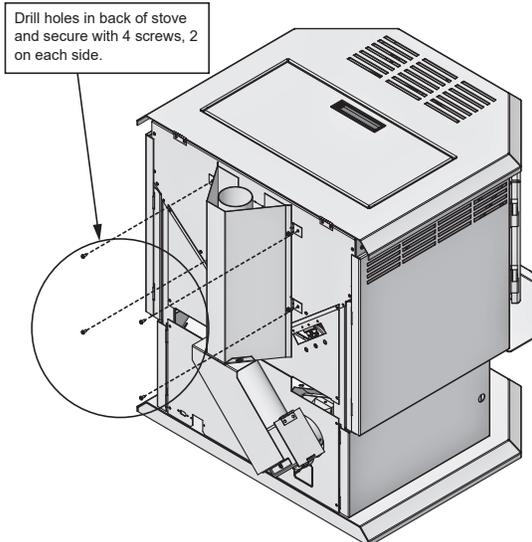

Figure 3
5. Ensuring the adapter is in the vertical position; drill four (4) holes with #26 Drill Bit (C3) into the back of the stove using the outer shield on the Top Vent Adapter Assembly (C1) as a guide, secure using four mounting 8-32 x 3/8 inch screws (C2) (Figure 3).